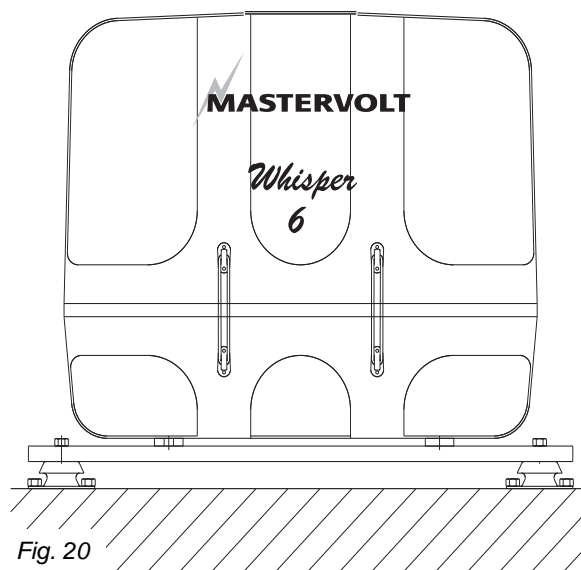

Fig. 20
- 1 Install a steel foundation plate between ship's hull and generating set, with 4 shock mounts (ref. to fig. 20) 'foundation plate' (optional for Whisper 6 and 8).